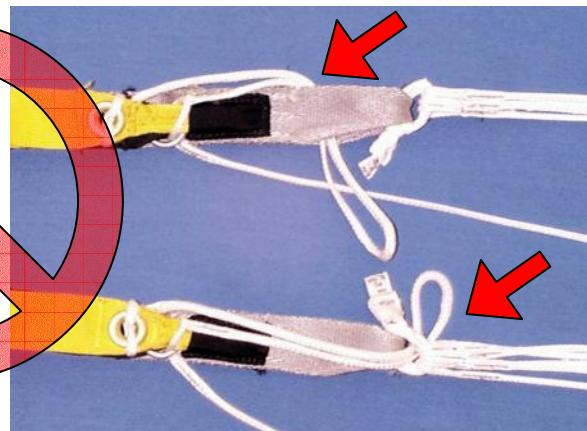

*Figure 5. – Excess line stowed in rubber band.*
2. Set the brakes as normal. S-fold the excess steering line and stow it in the half rubber band as shown in *Figure 5*. The S-folds should be made as short as possible to avoid leaving large loops of line exposed near the toggle.